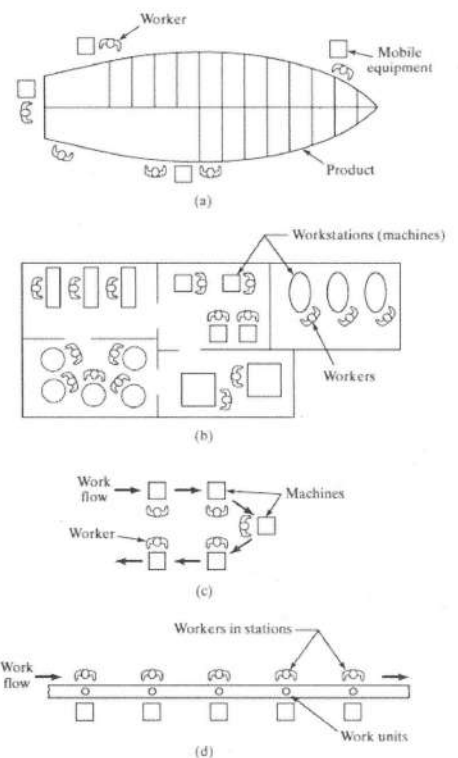

Figure 2: Various types of plant layout: (a) fixed position layout, (b) process layout, (c) cellular layout, and (d) product layout.
- OR iii. This type of layout is a fixed position layout, shown in Figure 2 (a), in which the product remains in a single location during its entire fabrication. Examples of such products include ships, aircraft, railway locomotives, and heavy machinery. The individual parts that comprise these large products are often made in factories that have a process layout, in which the equipment is arranged according to function or type. The lathes are in one department, the milling machines are in another department, and so on, as in Figure 2 (b).
The processing or assembly of different parts or products is accomplished in cells consisting of several workstations or machines. The term cellular manufacturing is often associated with this type of production. Each cell is designed to produce a limited variety of part configurations; that is, the cell specializes in the production of a given set of similar parts or products, according to the principles of group technology. The layout is called a cellular layout, depicted in Figure 2(c).
The collection of stations is designed specifically for the product to maximize efficiency. This is a product layout, in which the workstations are arranged into one long line, as depicted in Figure 2 (d), or into a series of connected line segments.